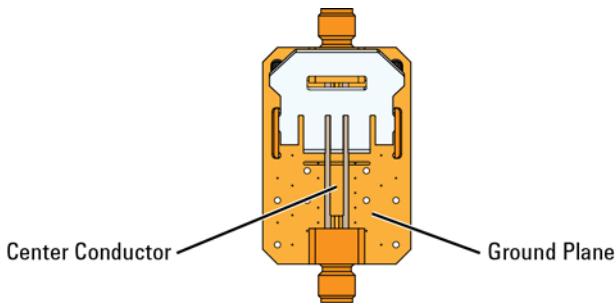

Figure 24 Probing Locations on PV Fixture
- 20 Use a probe positioner to gently place the probe pin tips onto the PV fixture's center conductor and ground plane as identified in **Figure 24** on page 33.